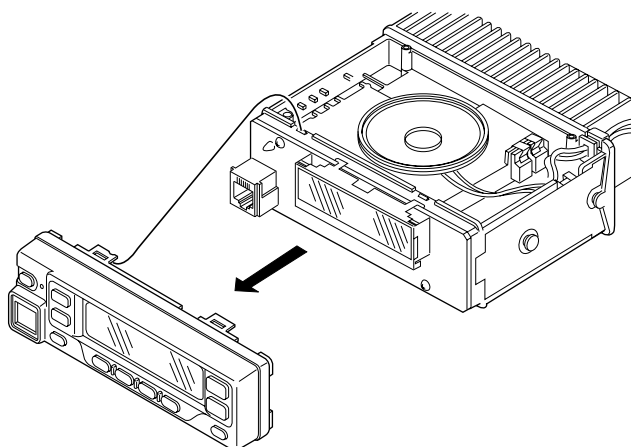

Fig. 11
1. Remove the control panel and the TX-RX unit (B/2) control section. (Fig. 11)